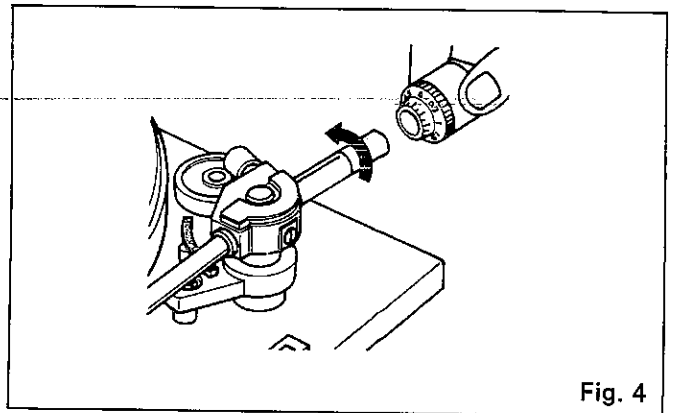

Fig. 4
6. Mount the main weight as shown in Fig. 4.